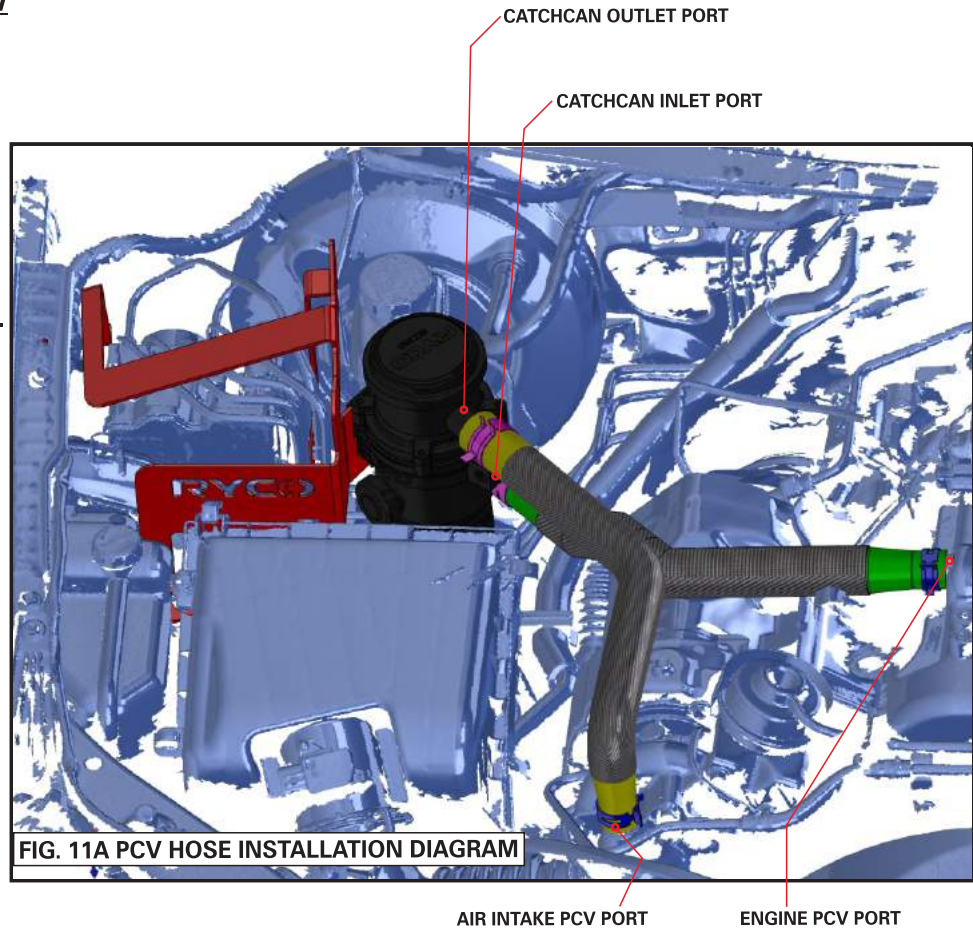

FIG. 11A PCV HOSE INSTALLATION DIAGRAM
10. Slot RCC351 Catchcan with nylon bracket onto the FB9810CX Catchcan bracket as shown in FIG. 11A
REFER TO FIG. 11A & 11B
12. Starting with the MH9810Y PCV hose, install the small end on to the Engine PCV Port & tighten with the MS4094 hose clamp as shown in Fig. 11A & 11B.
13. Install the other end of the MH9810Y PCV hose on to the lower, inlet port, of the RCC351 Catchcan and tighten with the MS4091 hose clamp as shown in Fig. 11A & 11B.
14. Install the larger end of the MH9810X PCV hose on to the upper, outlet port, of the RCC351 Catchcan and tighten with a MS4091 hose clamp. Install the other end of the MH9810X PCV hose on to the Air Intake PCV port and tighten with a MS4094 hose clamp as shown in Fig. 11A & 11B.